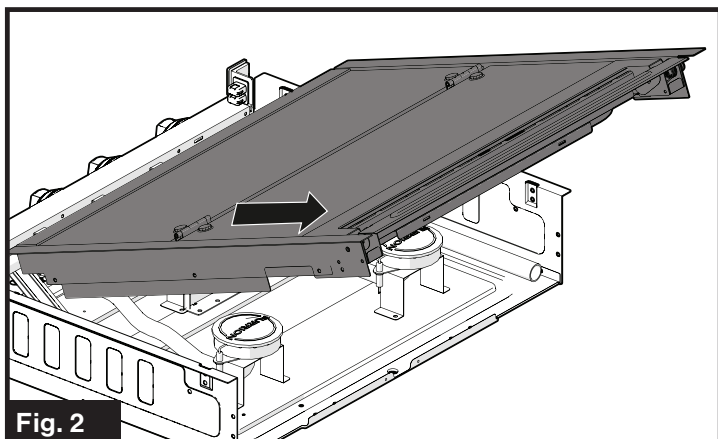

Fig. 2
- Push a little and lift to remove the top glass cover from the cooktop. (Fig. 2)